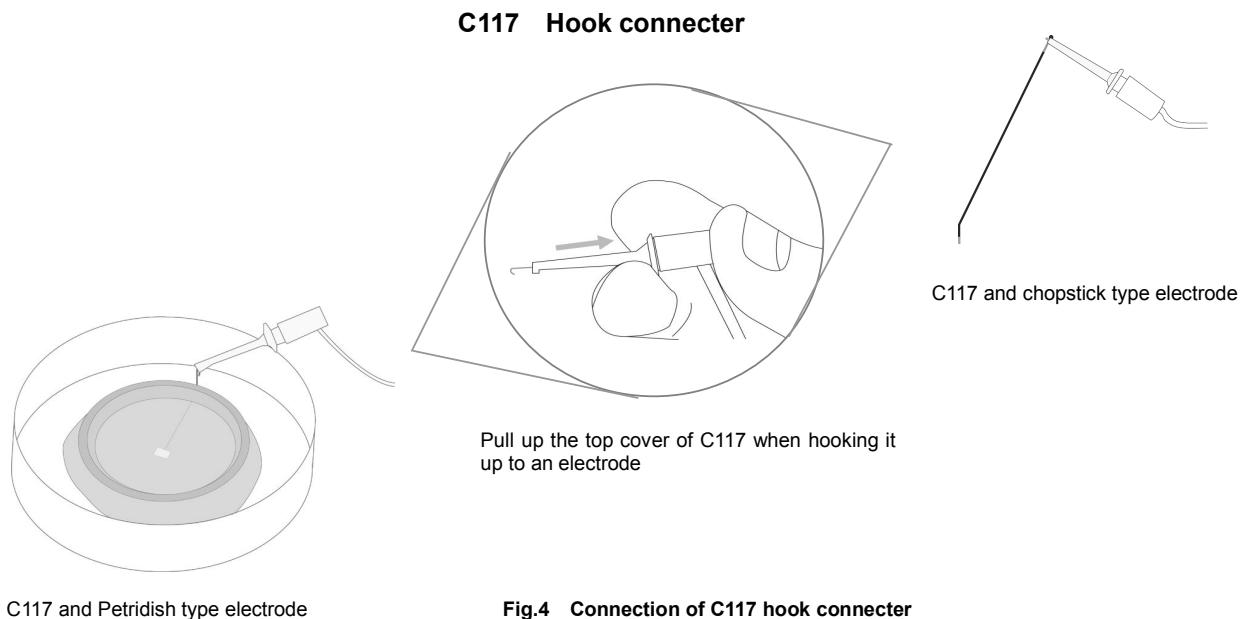

Fig.4 Connection of C117 hook connector
7. Hook up a hook of a hook cable C117 to the electrode (Refer to Fig. 4)